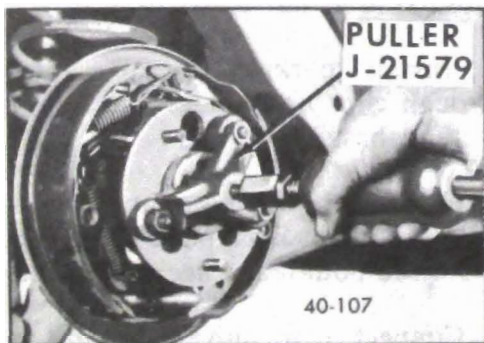

Figure 40-126 Removing Rear Axle Shaft
4. Pull out axle shaft assembly using Puller J-21579 with a slide hammer. See Figure 40-126.